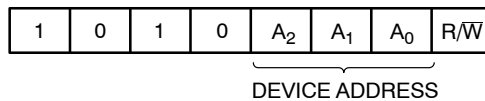

Figure 3. Slave Address Bits
The Master addresses a Slave by creating a START condition and then broadcasting an 8-bit Slave address. For the NV24C64LV, the first four bits of the Slave address are set to 1010 (Ah); the next three bits, A₂, A₁ and A₀, must match the logic state of the similarly named input pins. The R/ \bar{W} bit tells the Slave whether the Master intends to read (1) or write (0) data (Figure 3).